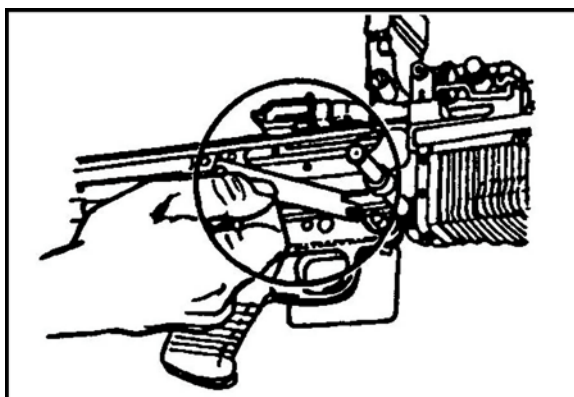

Figure 7. Sear pin.
- b. Rotate the rear of the leaf spring up to clear it from the sear pin (Figure 7).